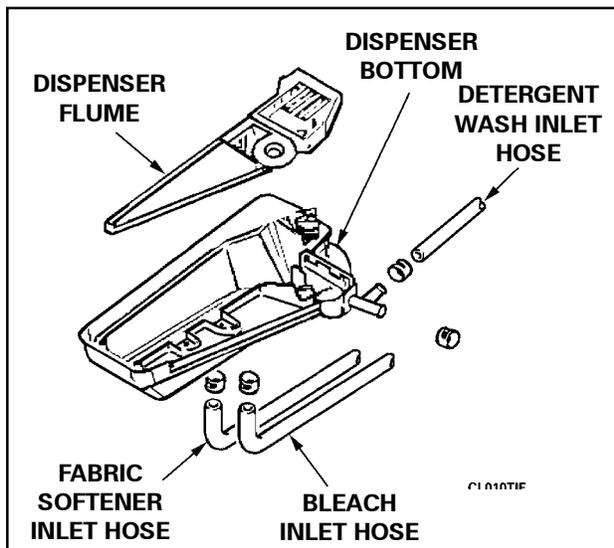

**Figure 8-1**
**NOTE:** *The mounting screw serves as a locating pin to hold the valve in position on the mounting bracket. By partially removing the screw, the water valve can now be slid to the left and removed from the bracket (Figure 8-1).*